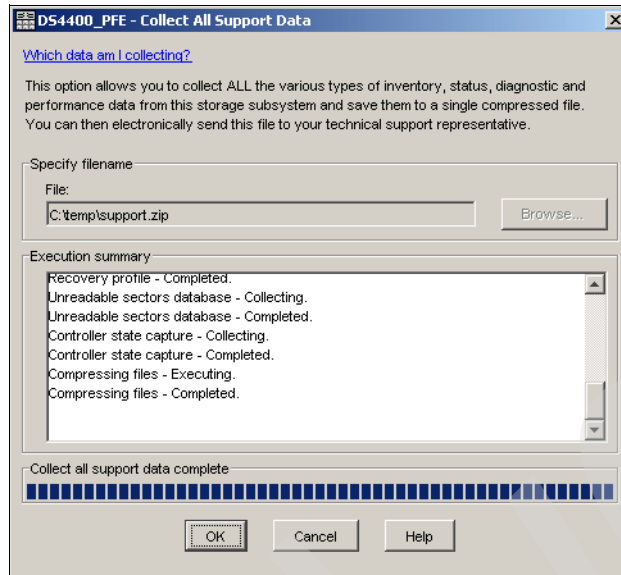

Figure 7-55 Collect All Support Data
2. The Collect All Support Data window (Figure 7-55) opens. Specify the name and location of the zip file that you want to create and then click **Start** to begin the collection.